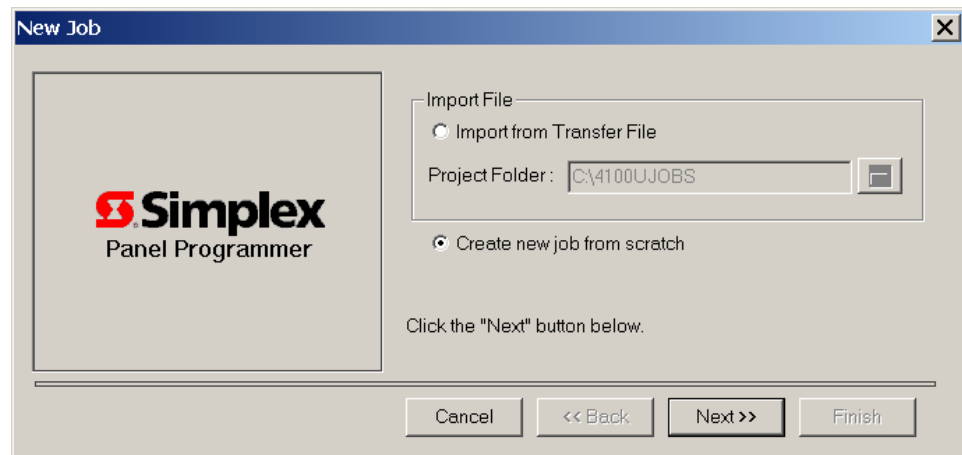

Figure 3-2. New Job Wizard
In both cases, the New Job wizard, shown in Figure 3-2, appears. The first screen prompts you to choose whether the job is being created from scratch or whether it is being imported from an OASYS transfer file. Refer to “Creating a New Job from Scratch” or “Importing an OASYS Transfer File” below for specific information.
4. In the **Path** field of the Create New Job dialog (refer back to Figure 3-2), specify the directory path to which the job file should be stored. The default directory for a standalone panel is \4100UJOBS. (Network jobs default to \NETJOBS\NETWORK\NETNAME, where NETWORK represents the job's directory and NETNAME is the name of the network job.) If necessary, use the folder icon to the right of the text entry field to specify an alternative directory or drive.
1. Select the button labeled **Import from Transfer File**. (Refer back to Figure 3-2 for the location of this button.